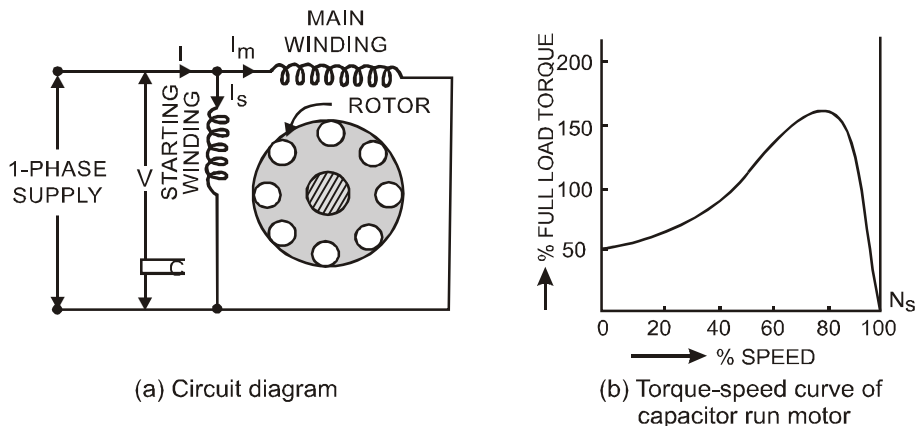

Fig. 4.33: Capacitor run motor
- 2. Capacitor run motors (fan motors) :** In these motors, a paper capacitor is permanently connected in the starting winding, as shown in fig. 4.33 (a). In this case, electrolytic capacitor can not be used since
Performance and characteristics. Starting torque is lower about 50 to 100% of full load torque. Power factor is improved may be about unity. Efficiency is improved to about 75%. A typical characteristics have been shown in fig. 4.33 (b). It is usually used in fans, room coolers, portable tools and other domestic and commercial electrical appliances.